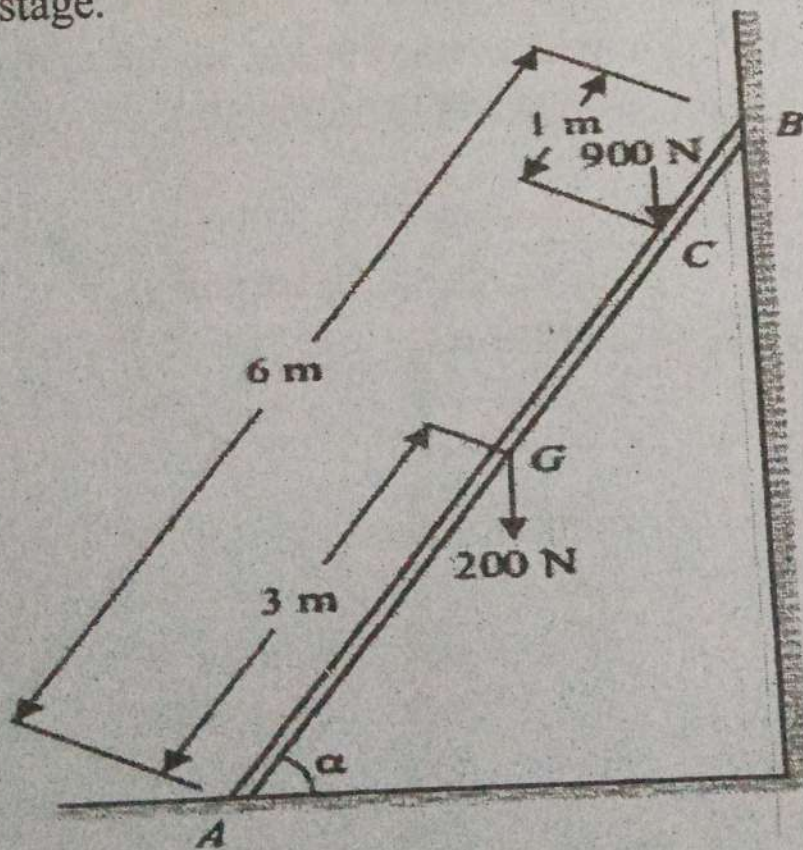

Fig. 5
12. The ladder shown in Fig. 5 is 6 m long and is supported by a horizontal floor and a vertical wall. The coefficient of friction between the floor and the ladder is 0.25 and between the wall and the ladder is 0.4. The weight of the ladder is 200 N and may be considered as a concentrated load at G. The ladder supports a vertical load of 900 N at C which is at a distance of 1 m from B. Determine the least value of α at which the ladder may be placed without slipping. Determine the reaction at that stage.